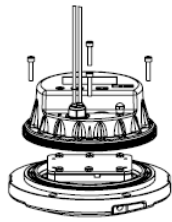

Figure 5-13
- Unplug the connecting cable connector of the LED lamp and circuit board and separate the upper cover and inner cover of the lighting fixtures (Figure 5-13).